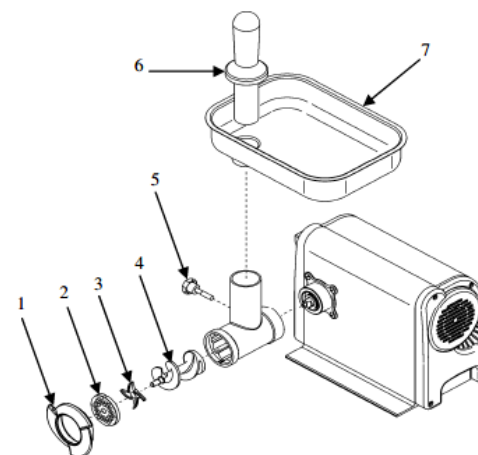

FIG. no. 8- Grinding Head
Grinder head cleaning (see FIG. no. 8)
6. When complete, disassemble and wash all components of the grinding head. (*FIG no. 8*)